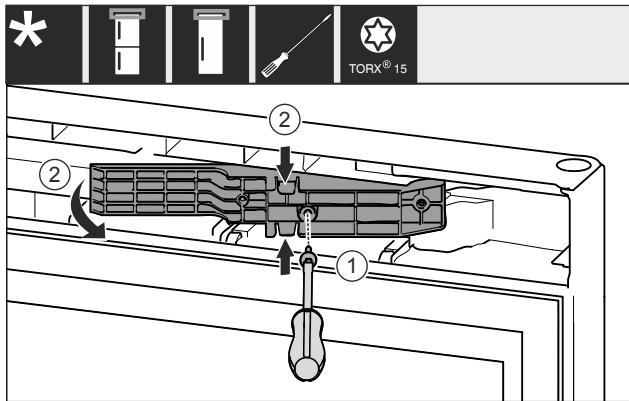

Fig. 12 \*
- ▶ Skrutkovačom T15 uvoľnite skrutky. Fig. 12 (1)\*
- ▶ Vytiahnite adaptér. Fig. 12 (2)\*